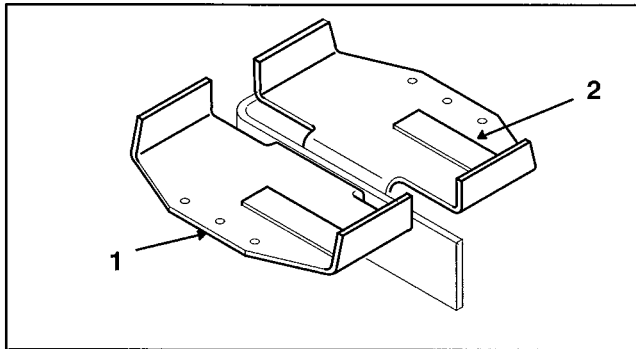

Figure 6
INSTALL BATTERY (Fig. 6 & 7)
- Mount battery holders to back side of left rear corner of cutting unit carrier frame with (2) 3/8-16 x 1-3/4" lg. capscrews and locknuts.
- Peel off backing from battery pads and affix pads to battery holder, positioning as shown in Fig. 6.